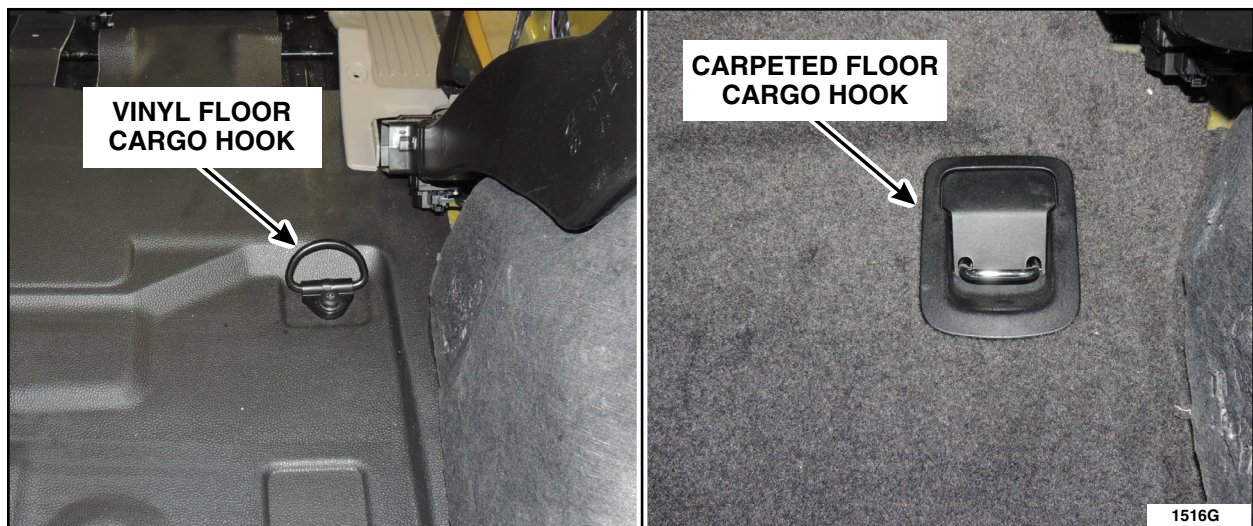

FIGURE 7
12. Install the two cargo hooks. See Figure 7.